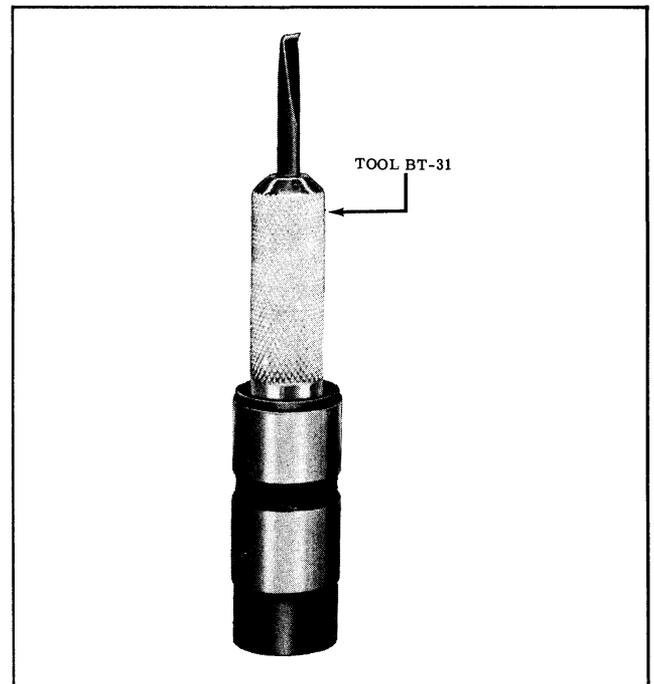

Fig. 8-17 Installing Lock Spring
7. Hold push rod seat down and install retaining lock spring, using Tool BT-31. (See Fig. 8-17)